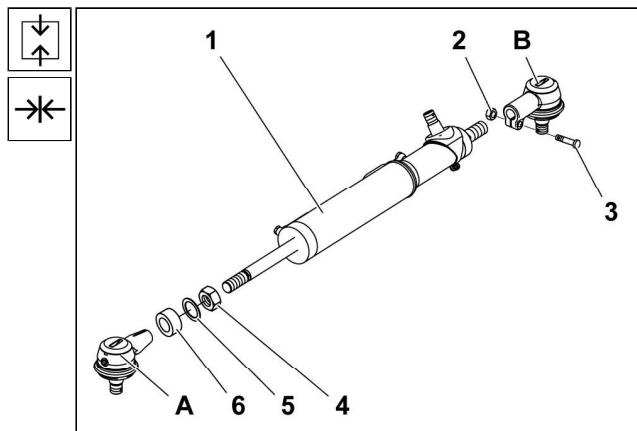

Fig. 10.46 Mounting of joints on booster - installation
3. Insert locking screw 3 (See Fig. 10.46) into ball joint housing.
When replacing the steering booster with a new one, first mount the nut **4**, (See Fig. 10.46) slide lock washer **5** and bush **6**. Then proceed as per points 1 through 5.
1. Screw the ball joint **A** (See Fig. 10.46) onto thread of steering booster piston rod **1**.
3. Tighten nut **4** (See Fig. 10.46) to  $310 \pm 10\% \text{ Nm}$ .